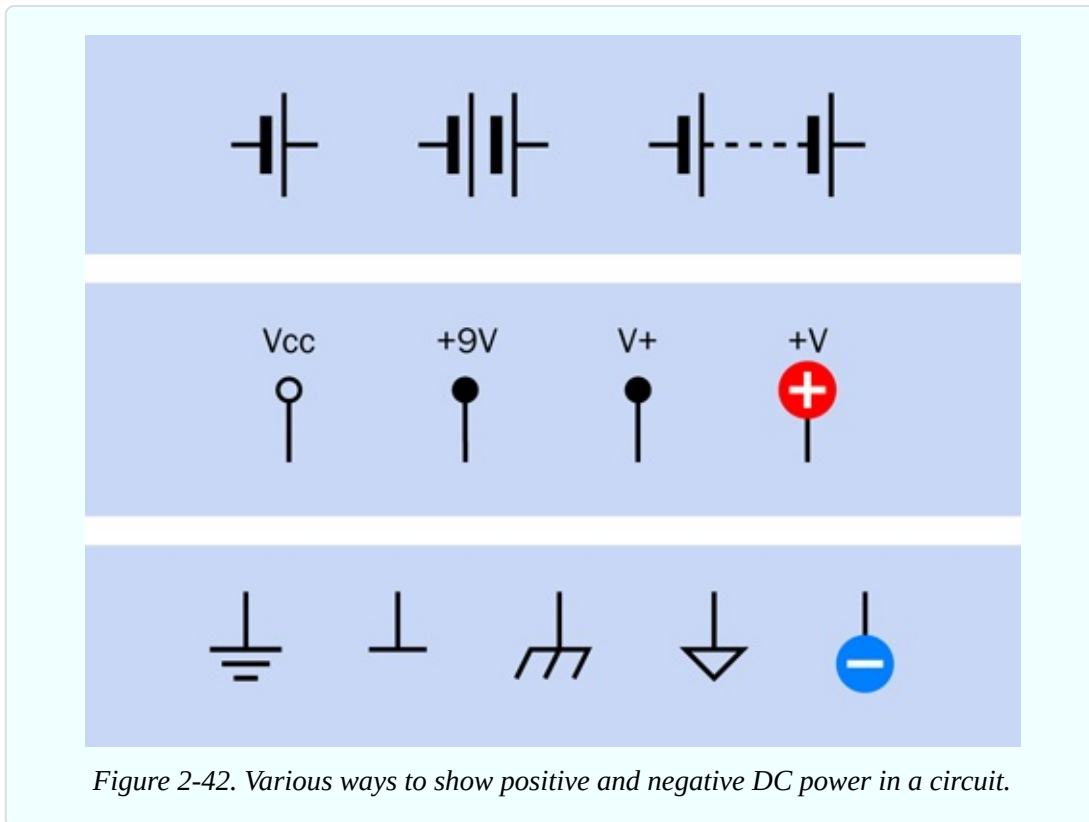

Figure 2-42. Various ways to show positive and negative DC power in a circuit.
2. Power Supply. The power supply for a DC (direct-current) circuit can be indicated in several ways. The top section of Figure 2-42 shows symbols for a battery. A short line indicates the negative end, while a longer line indicates the positive end. Traditionally, a single pair of lines represented a single 1.5-volt cell, two pairs indicated a 3-volt cell, and so on. But when circuits used high voltage with vacuum tubes, the person drawing the schematic would usually show a dashed line between cells instead of drawing dozens of them in a row.
A battery symbol may still be used in a simple schematic, but more often positive and negative DC power is indicated by separate symbols, shown in the center section and the bottom section of Figure 2-42. Positive is applied in one location of a circuit labelled V_{CC} , V_{CC} , or V^+ , or $+V$, or $+V$ with a number added to indicate the voltage. Originally the term V_C referred to the voltage at the collector of a transistor. V_{CC} meant the supply voltage for the whole circuit, and is now used regardless of whether the circuit has any transistors in it. Many people say “vee cee cee” without knowing its derivation.
The negative side of the power supply can be shown with any of the symbols in the bottom section of Figure 2-42. It may be referred to as “negative ground” or simply “ground.” Because many parts of a circuit may share a negative potential, multiple ground symbols may be found scattered around a schematic. This is more convenient than drawing lines linking them all together.